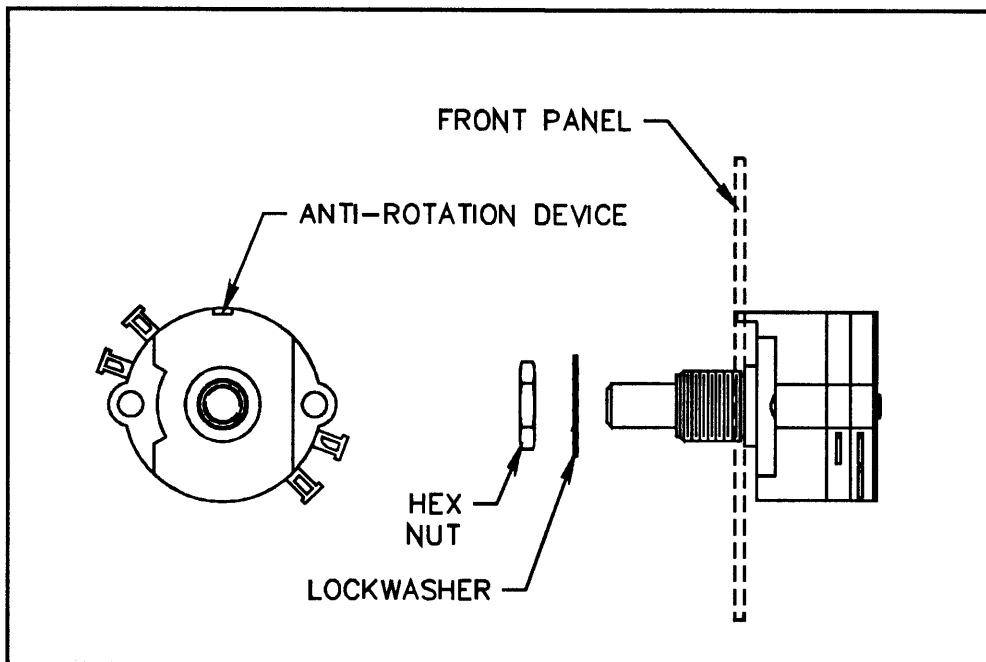

Figure 2. Switch Assembly
4. Install the switch using the supplied hardware to the front panel as shown in Figure 2. The anti-rotation device MUST go into the 0.140"(3.56mm) drilled hole.